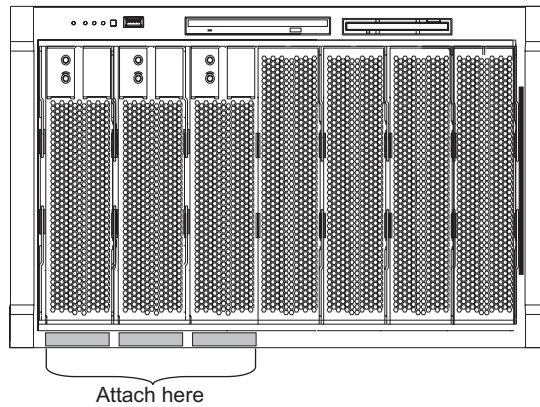

Figure 7. Where to attach user labels
8. (Optional) A set of user labels comes with the blade server. Write identifying information on one of the user labels for the blade server; then, place the label on the BladeCenter unit bezel just below the blade server, as shown in Figure 7 on page 19.